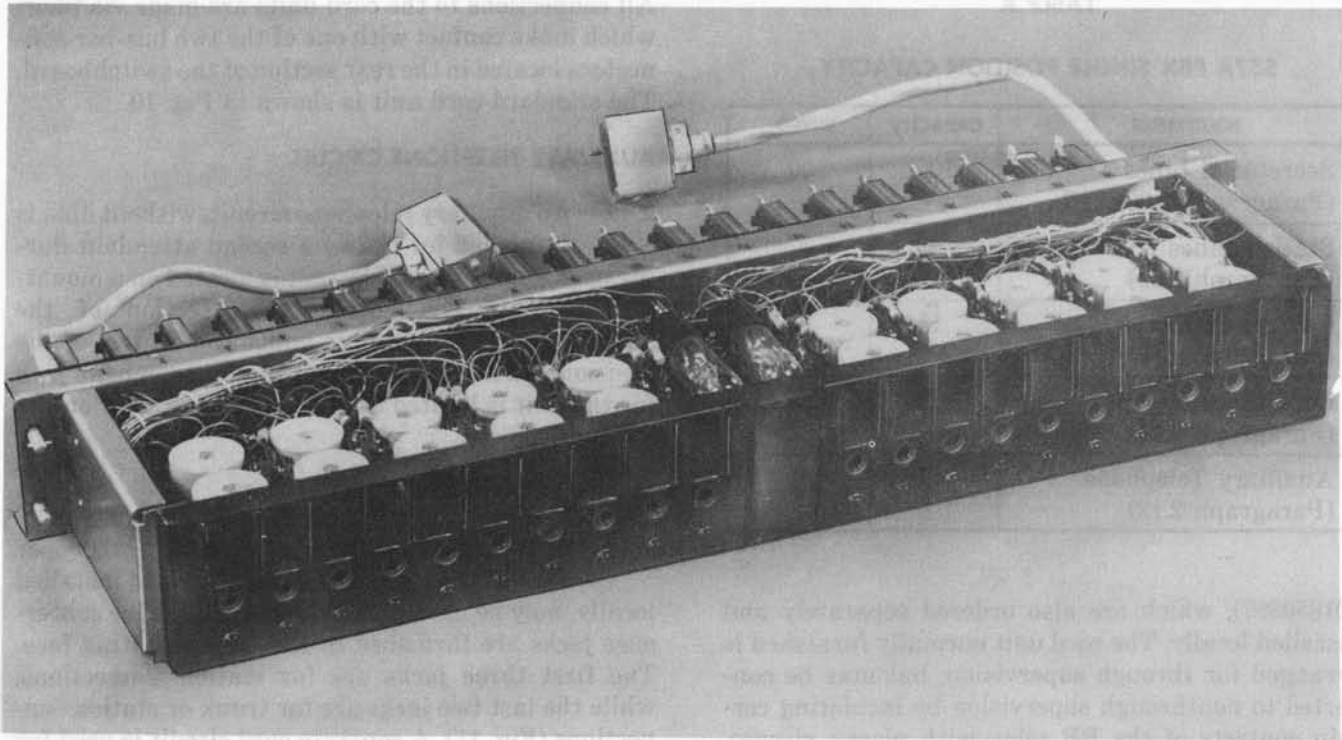
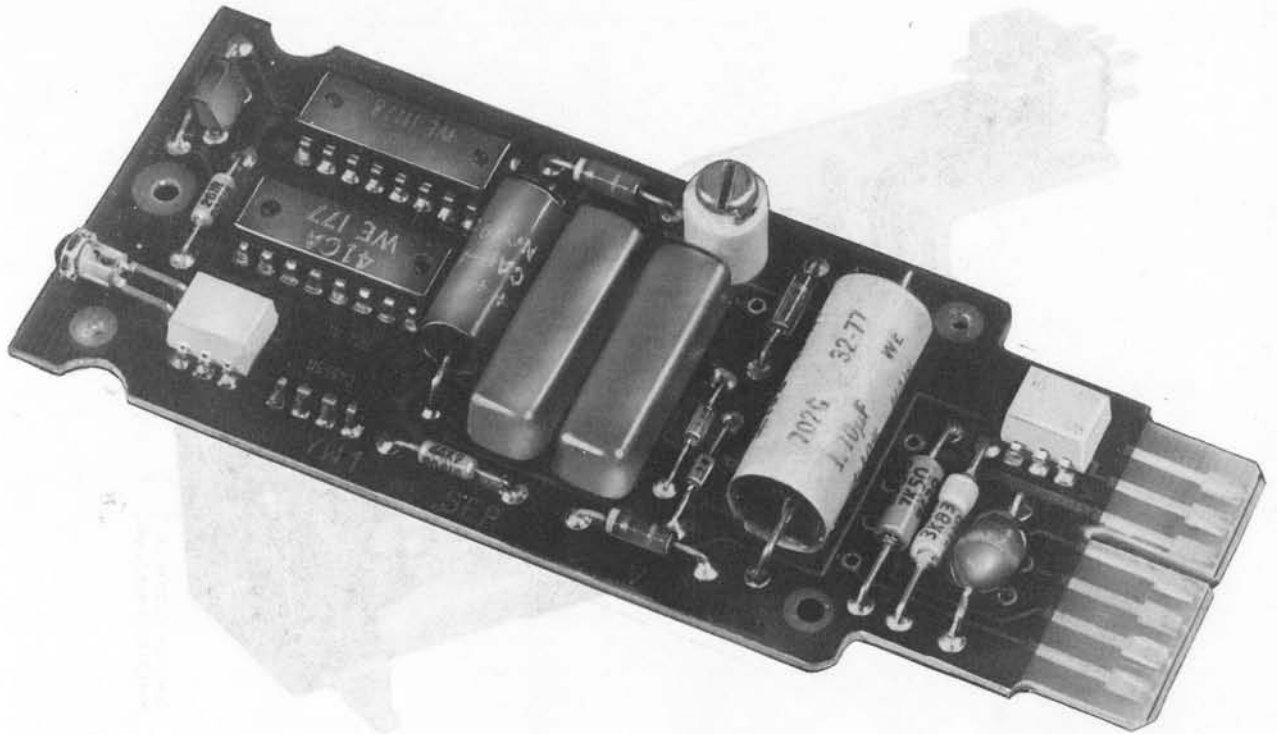

Fig. 4—J59023G-2 Solid-State Secretarial Line Unit
Fig. 5—YW1 Solid-State Circuit Pack
2.07 The solid-state secretarial line equipment (Fig. 4) is furnished in self-contained units of 20 line circuits per unit. These units are equipped with the solid-state YW1 circuit pack (Fig. 5) line units plugged into 912A connectors mounted on the unit. A maximum of five secretarial line units can be mounted on one switchboard position. The YW1 secretarial line unit provides nonlocking line signals with secrecy or nonsecrecy. Secrecy feature prevents the bureau attendant from gaining access to an established subscriber conversation and from making outgoing calls on a secretarial line. To provide the secrecy option, the SW1 screw switch on the YW1 circuit pack should be turned down to a closed position. The solid-state secretarial line unit (Fig. 4) is ordered separately and installed locally. The YW1 circuit pack requires a +5 volt dc power supply in addition to the standard -24 volt dc power supply. Unequipped secretarial line unit spaces in the face of the switchboard shall be covered with line unit blank (comcode 813415833) which is also ordered separately and installed locally. Each secretarial unit is 3-inches high and extends the full width of the switchboard jack panel opening. The secretarial line units are installed and removed from the rear of the switchboard and connected to the outgoing terminal strip through two plugs mounted on each side of the unit and sockets wired to the local switchboard cable. Two plugs, one on each side of the line units, are the power connectors for the +5 volt dc power supply.◀